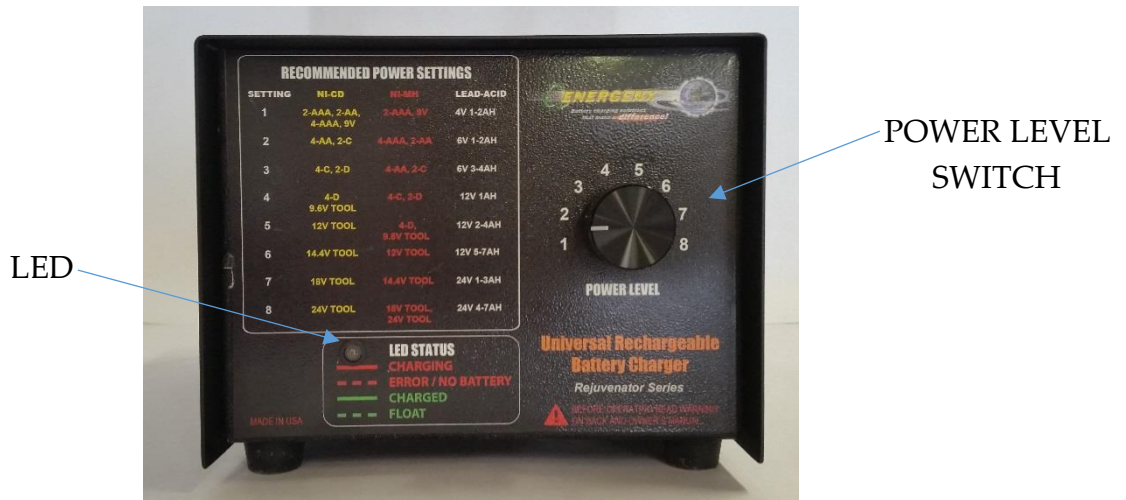
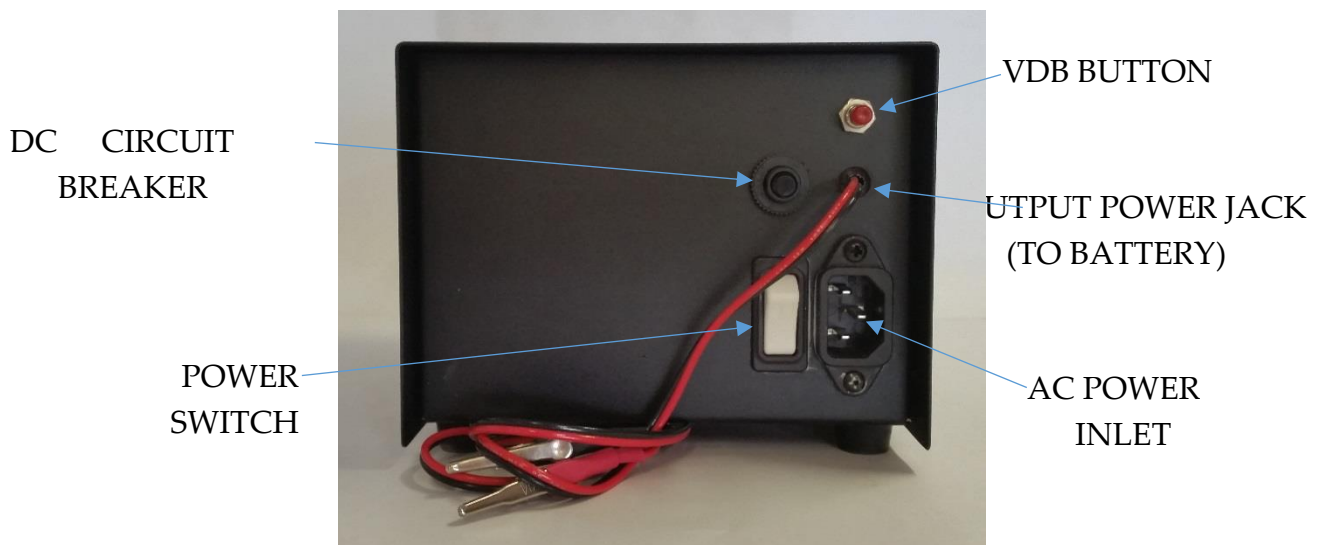

Figure 3
Figure 4
3. Choose the appropriate POWER LEVEL setting using the Power Level Switch, (See Figure 3), to match the battery to be charged. One may choose to deviate from the recommended power settings as marked on the top panel in order to increase or decrease the charge rate as desired (See Section 2, Part 3). However, attempting to charge a battery too fast, using a voltage setting higher than recommended, may cause the charger to operate outside of its specified electrical parameters. This will cause the DC circuit breaker on the back panel to trip (Figure 4). If this occurs, lower the voltage setting, wait for the breaker to cool, then reset the breaker by pressing its button, and restart the charging process.
4. Turn on the power switch (Figure 4). If either the polarity is reversed or the battery voltage is too low, LED will flash RED. If charging does not begin, battery voltage may be too low. See Section 4.2 BEFORE operating the voltage detection bypass (VDB) button. During the charging process, the LED indicator will show solid (non-flashing) RED.